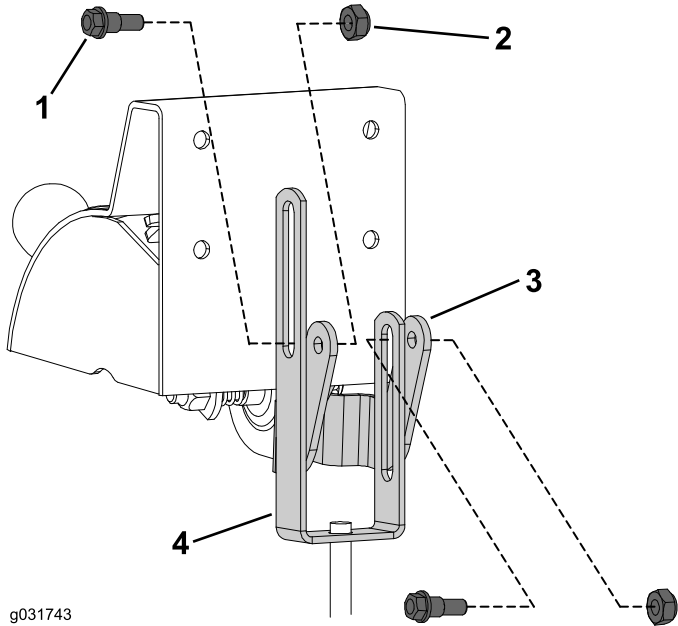

Figure 1
2. Mount the slotted throttle rod ends to the throttle levers with 2 shoulder bolts (1/4 x 3/4 inch) and locknuts as shown in (Figure 1).
**Note:** Ensure that the rod ends are mounted to the sides of levers and that the bolt shoulders are positioned in the rod-end slots (Figure 1).